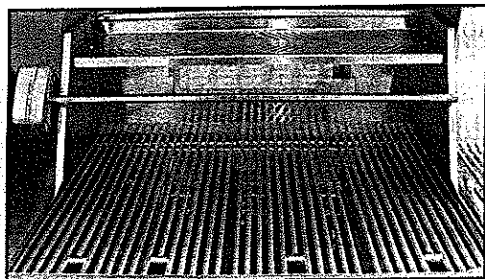

Fig. 14
3. Install cooking grates on the ledges provided on the grill to create your cooking surface. Place warming shelf on support brackets by setting it flat across brackets allowing the two holes to line up with the stops on each bracket. (See. Fig. 14)